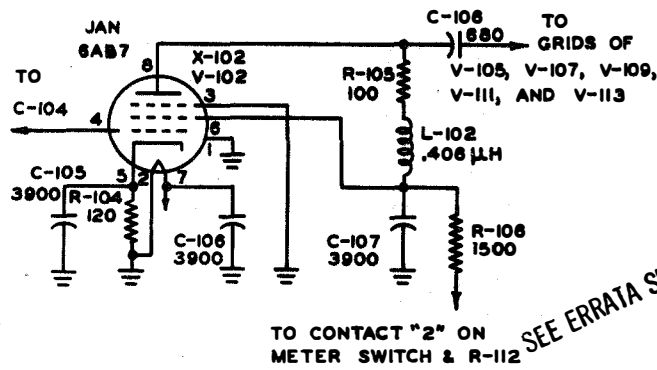

Figure 2-3. Antenna Multicoupler Unit, R-F Distribution Stage, Schematic Diagram
b. R-F DISTRIBUTION STAGES. (See figure 2-3.)—Two of these stages are incorporated in the multicoupler unit to provide two identical r-f output channels from a common signal source. Instead of connecting all ten multicoupler output stages in parallel for operation from one channel, one of two groups of five output stages are each connected to